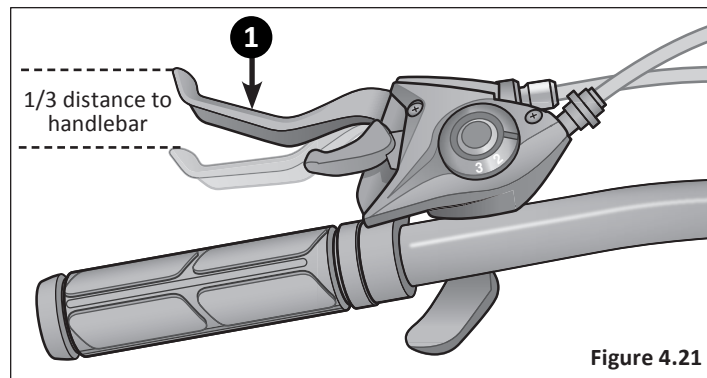

Figure 4.21
- 1 Check that the brake cable tension allows the brake lever about 1/3 of the travel before the brake pads contact the disc rotor. If the cable has stretched or slipped, re-adjust the brake cable tension. **Figure 4.21**